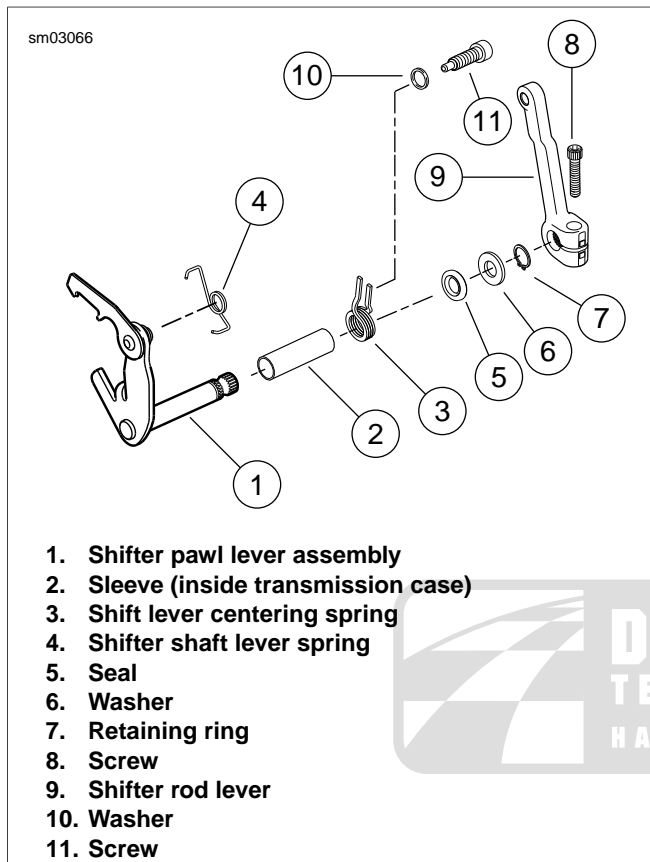

Figure 6-52. Shifter Arm Assembly
1. See Figure 6-52. After removing door assembly, remove screw (8) and shifter rod lever (9) from the shifter pawl lever assembly (1).
2. Remove retaining ring (7), washer (6) and seal (5). Discard retaining ring and seal. Pull shifter pawl lever assembly out of the transmission case.
3. Inspect sleeve (2) inside transmission case.
2. See Figure 6-52. Inspect the shifter pawl lever assembly (1) for wear. Replace assembly if pawl ends are damaged. Replace centering spring (3) if elongated.
3. Inspect the shifter spring (4). Replace if the spring fails to hold the pawl on the cam pins.
7. See Figure 6-52. Install shifter rod lever (9) on the shifter pawl lever assembly shaft end using screw (8). Tighten to 18-22 ft-lbs (24.4-29.8 Nm).
1. See Figure 6-52. Verify that sleeve (2) is inside transmission case.